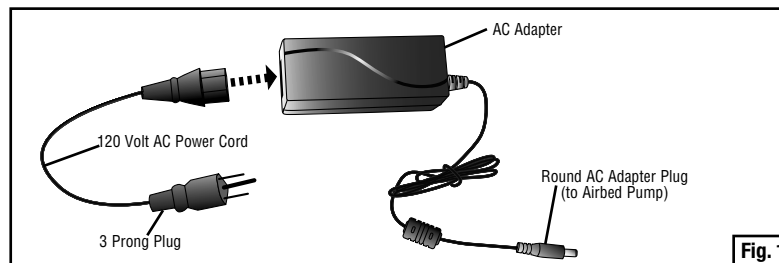

Fig. 1
- Connect 120V AC power cord to AC adapter. (see Fig. 1)